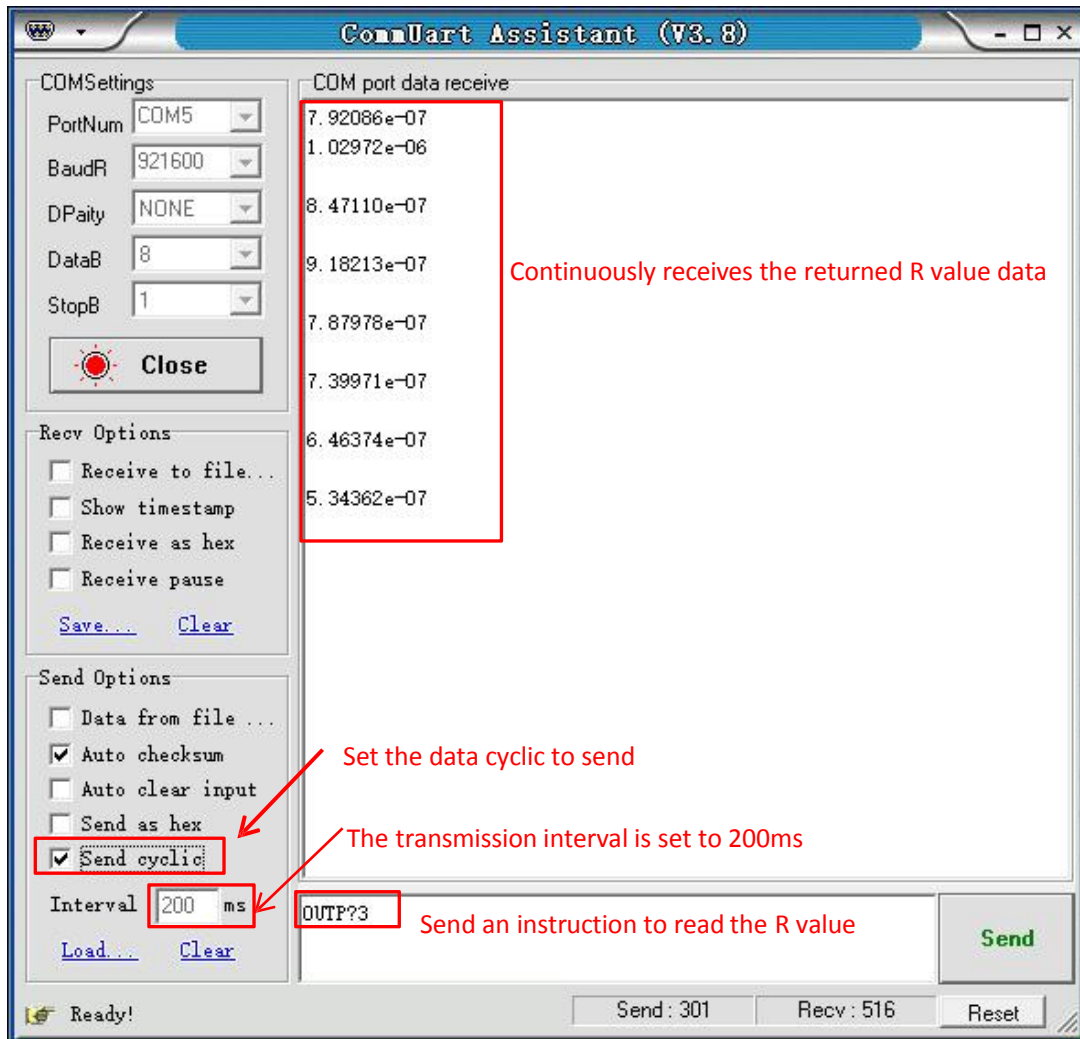

Fig.79 Read the single R value continuously
(4) If you want to read the values of <X>, <Y>, <R>, < θ > and Freq continuously, you can set the transfer interval time as Fig.79.